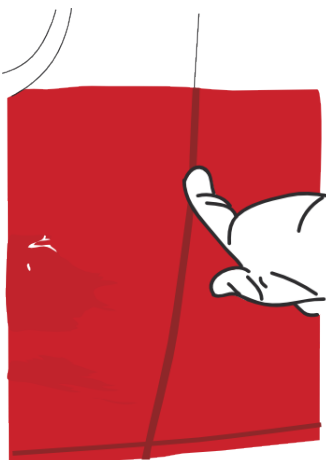

Figure 29
- › Trace the contours of the area with your gloved finger. (FIG. 29)